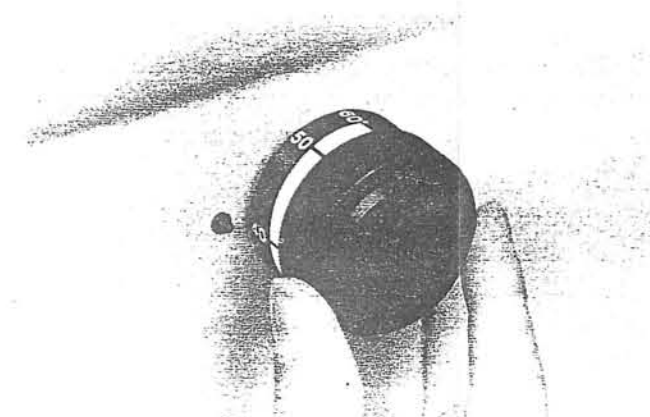

Fig. 46
14. Set the required picture angle by turning the zooming knob. The flash and illumination intensities are regulated automatically according to the amount of zooming. (Fig. 46)